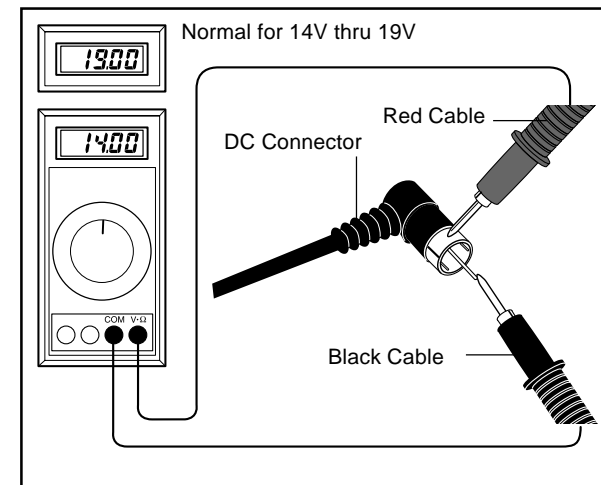

Fig. 1
3. Using a tester, measure the voltage at the plug which will be connected to the main unit. (Fig. 1)